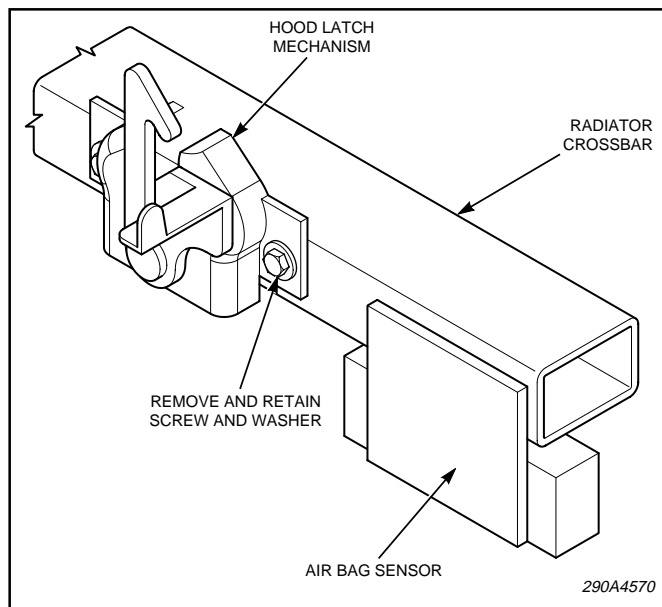

Figure 2.
a. Remove and retain the existing bolt and washer on the right (driver) side of the hood latch mechanism. See figure 2.